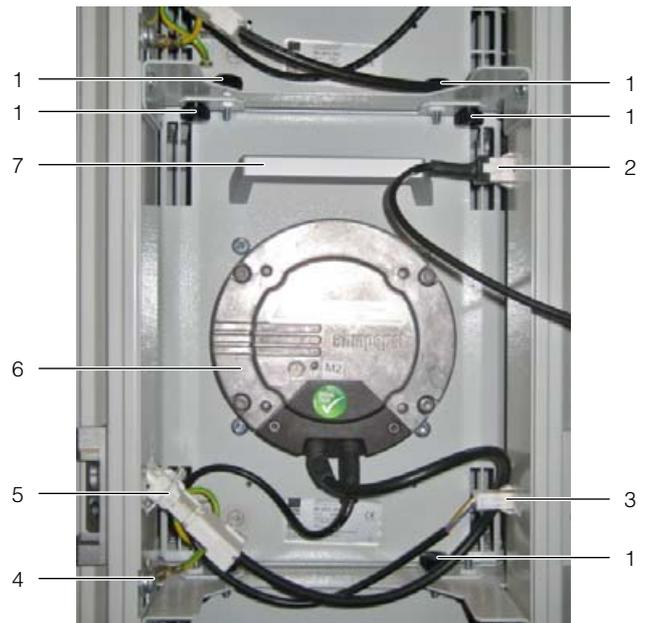

Fig. 29: Fan module in fan tray – LCP Inline and LCP Rack version
- Should you wish to exchange fan 2 and if the optional display with touch function is installed, please first disconnect connector X33 of the connection cable (fig. 29, item 2).
- Release the two fan connectors DC and AC on the left and right (fig. 29, items 3 and 5).
- Disconnect the earth connection on the fan (fig. 29, item 4).
- Loosen the two screws, right and left (fig. 29, item 1), at the top and bottom of the fan mounting plates.